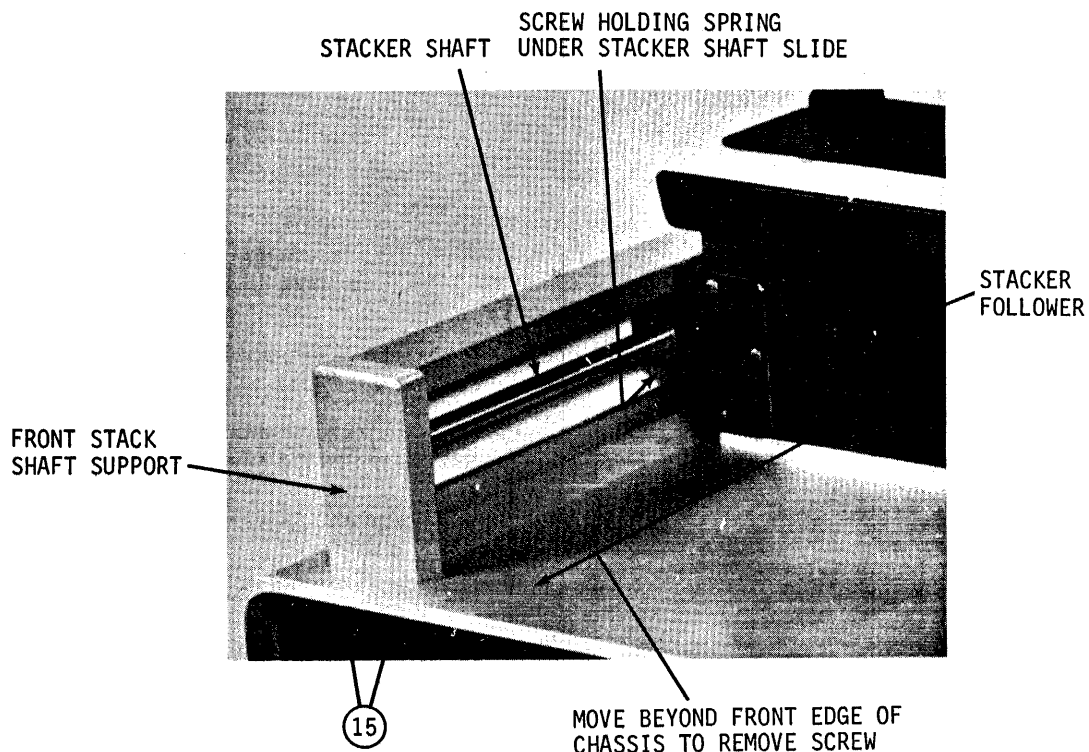

Figure 9-22. Stacker Negator Spring Replacement
- c. Using a 9/64 Allen wrench, remove two socket head screws (15) holding front stacker shaft support, figure 9-22.
- e. Remove stacker shaft, figure 9-22.